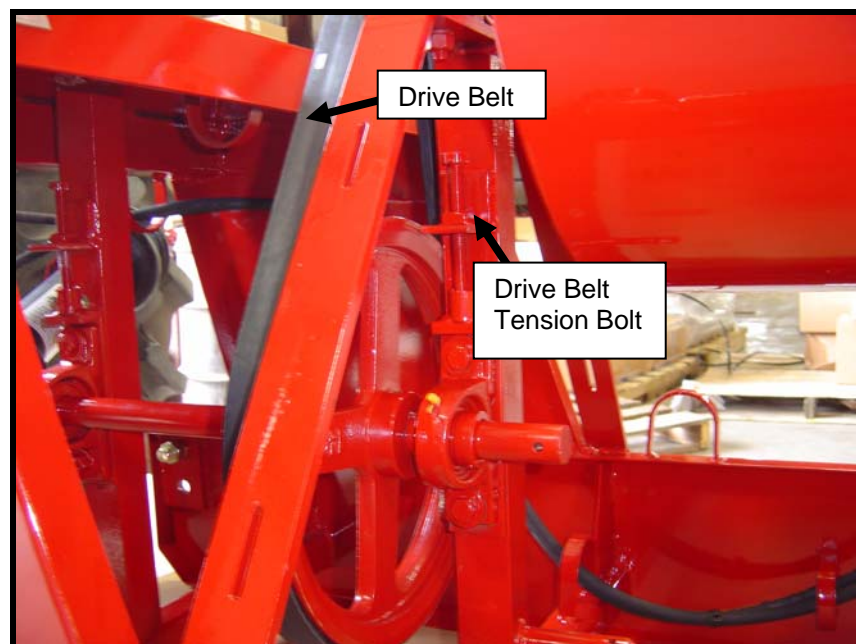
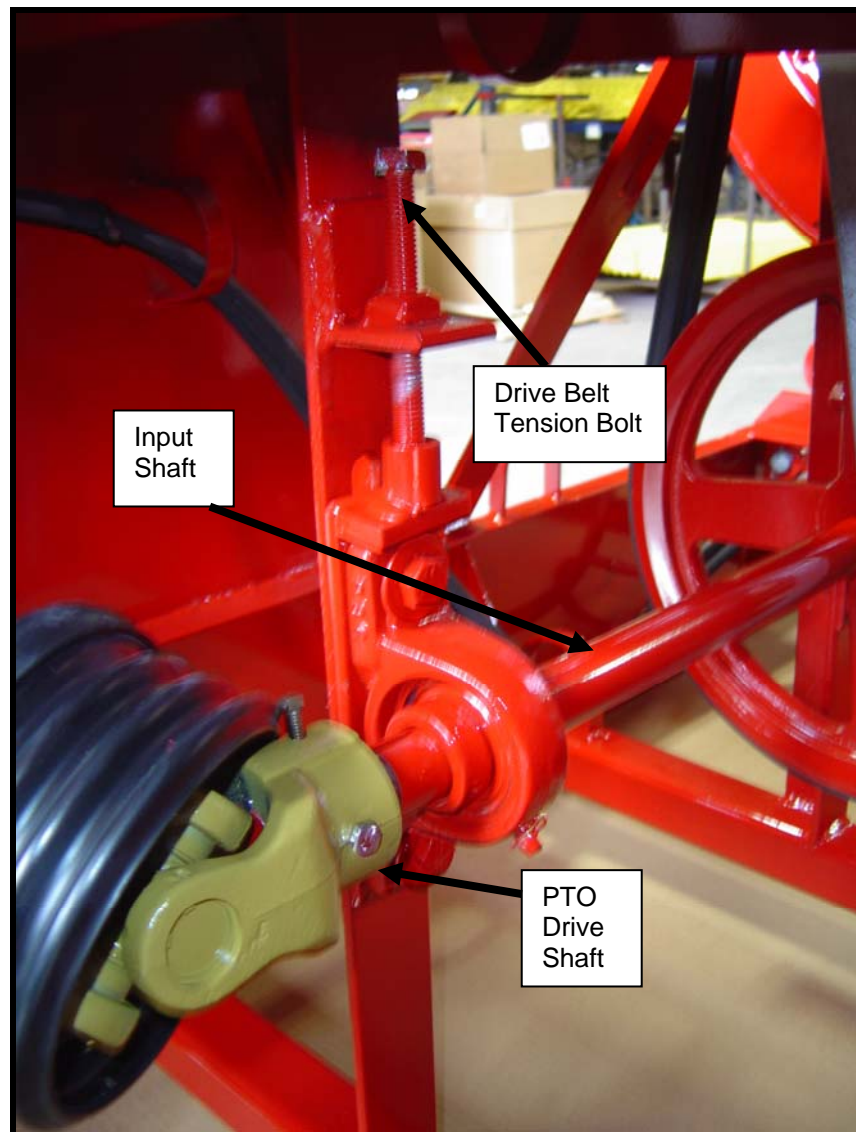

FIGURE 2
FIGURE 3
New belts should be checked after 10 minutes of initial operation to ensure minimal slippage and be re-adjusted when necessary. Loosen both bearing block bolts (Figure 2 AND Figure 3) and adjust the belt tension using the adjustment bolts located at each bearing. Proper tension can be measured midway between the pulleys with a deflection of $\frac{1}{4}$ " @ 20 Lbs. for new belts, and $\frac{1}{4}$ " @ 10 Lbs. for older belts. Once the correct tension has been established, the bearing block bolts should be re-tightened to maintain the setting.
1. Remove bolt from PTO drive shaft and disconnect PTO shaft from Blower input shaft (See Figure 3).
2. Loosen the tension on the adjustment bolts for each bearing. By removing the mounting bolts on each bearing you can remove and replace the drive belt (See Figure 2&3). Repeat the process in reverse order to install the new belt. Once the belt has been installed, refer to the instructions located on page 10 on how to properly adjust belt tension.